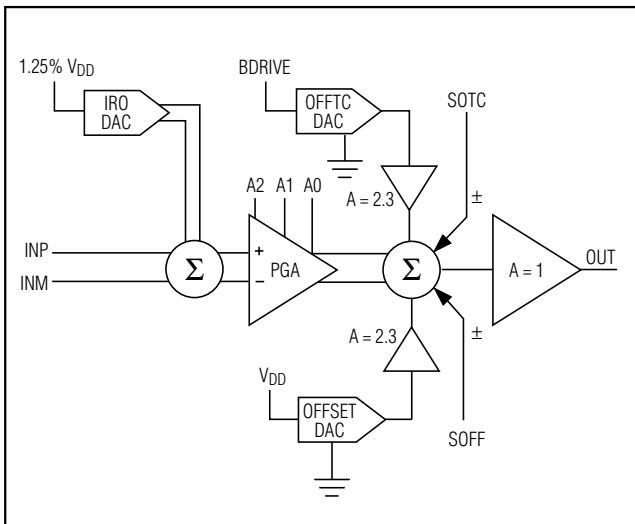

Figure 3. Signal-Path Block Diagram
Compensating offset TC errors involves first measuring the uncompensated offset TC error, then determining what percentage of the temperature-dependent voltage V_{BDRIVE} must be added to the output summing junction to correct the error. Use the offset TC DAC to adjust the amount of BDRIVE voltage that is added to the output summing junction (Figure 3).
- Differential to single-ended output buffer with rail-to-rail output (Figure 3)